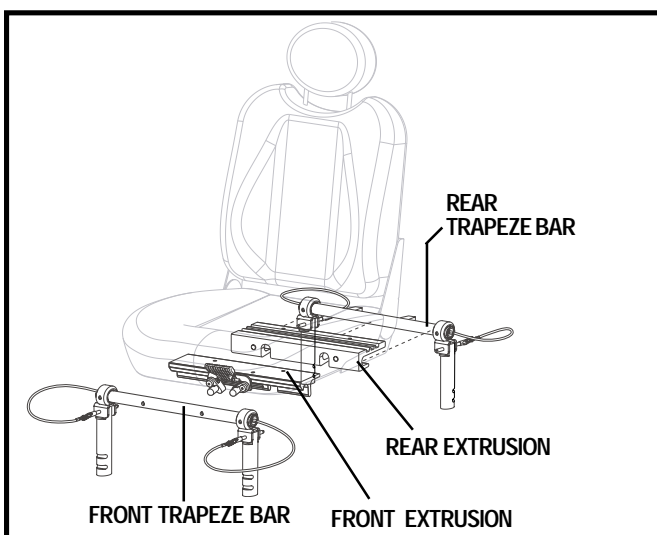

Figure 10. Universal Mounting System
2. Tilt the seat back, and slide the rear extrusion onto the rear trapeze bar. See figure 10.